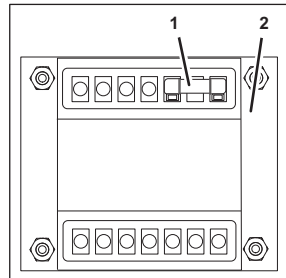

Figure 140
1. Remove the fuse (Figure 140/1) from the transformer (Figure 140/2).
2. Insert the new fuse (Figure 140/1) into the transformer (Figure 140/2).